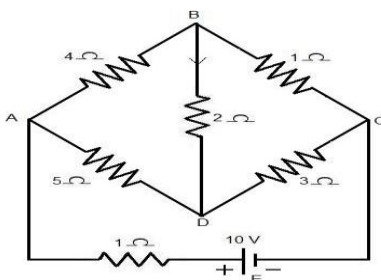

Fig.3
11. In the circuit shown in Fig3, determine the current through the 2 ohm resistor and the total current delivered by the battery. Use Kirchhoff's laws.